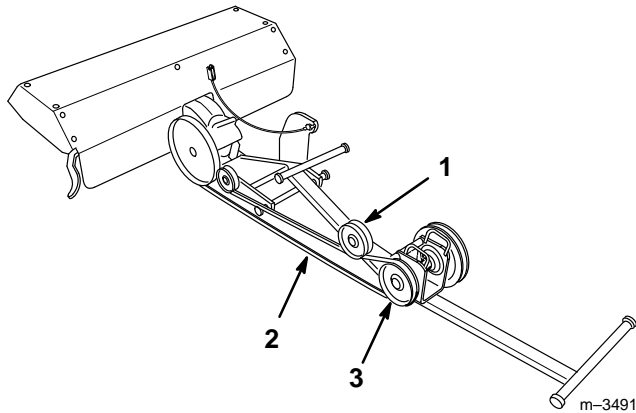

Figure 26
2. As the drive belt wears and the tiller is raised and lowered, the spring-loaded idler arm moves (Fig. 26).
2. Remove the rear tiller belt (short belt) from the jack shaft pulley (Fig. 26).